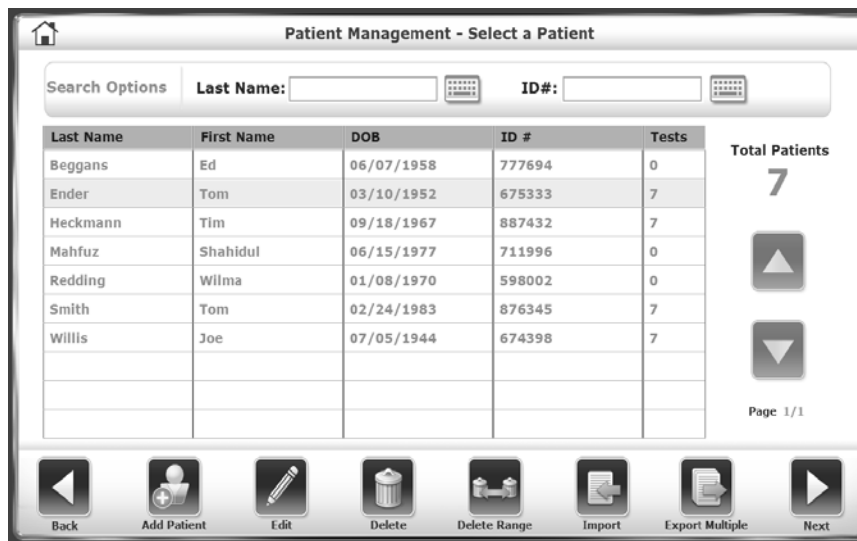

Figure 7.17. Patient Management Screen.
3. At the Access ID Code screen, enter the ID code **159** or the site's code, and touch <OK>. The Patient Management screen is displayed (see Figure 7.17).